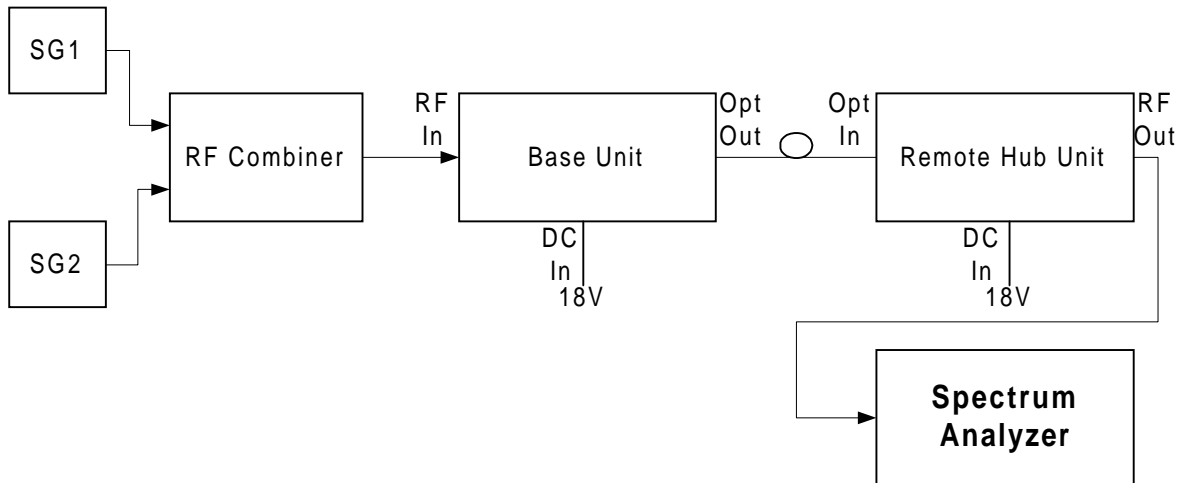

Figure 10 – Spectrum Analyzer Setup Test
3. Connect the 2-tone signal to the input of the base (see Figure 10).